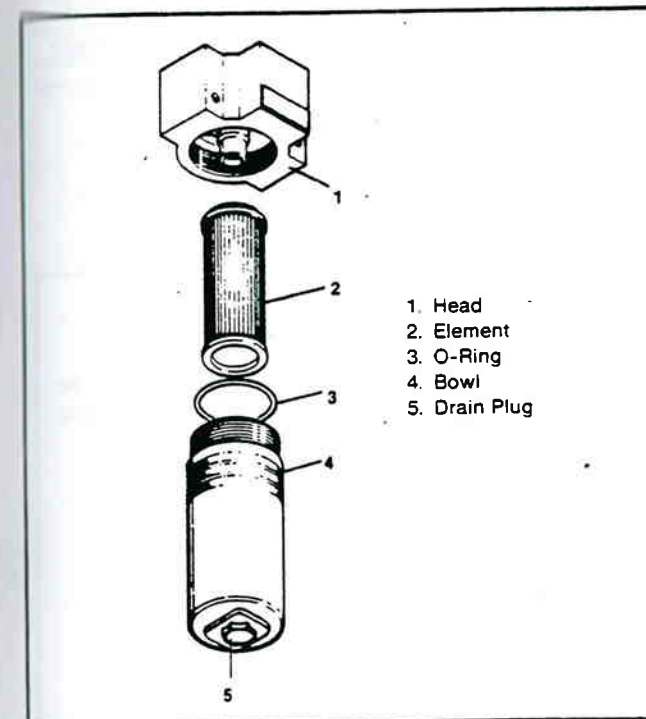

Figure 11-106. Power Steering Filter.
2. Unscrew the bowl and lower it vertically to clear the element assembly. See figure 11-106.